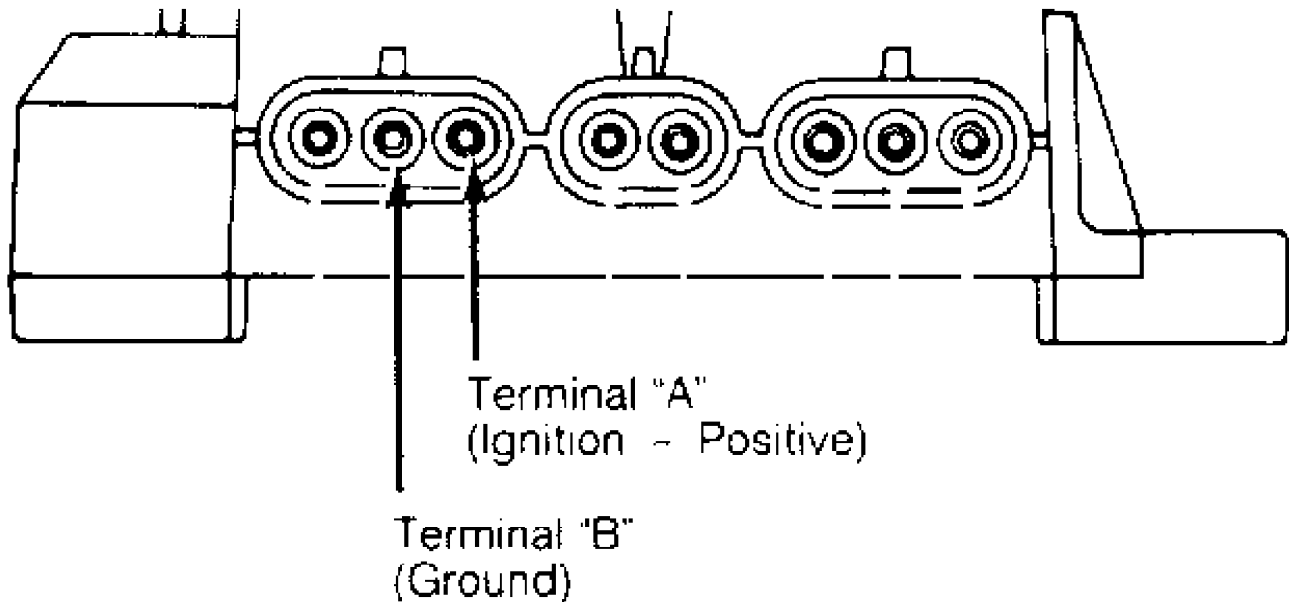

Fig. 1: 2.5L TBI ICM Connector Terminals
6) Load test battery to ensure battery is fully charged. Replace battery if necessary. If battery is okay, check voltage between terminals "A" and "B" of ICM connector while cranking engine. See Fig. 1.